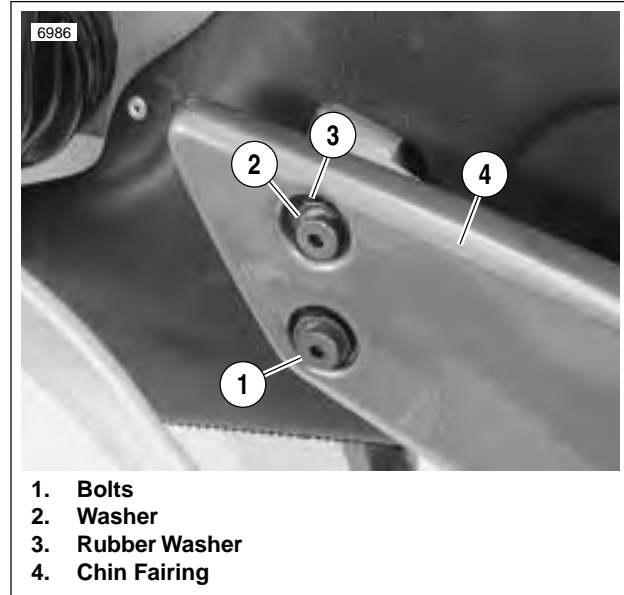

Figure 2-112. Chin Fairing, Right Side
1. See Figure 2-112. Remove two bolts (1), washers (2) and rubber washers (3) from right side of chin fairing (4).
3. See Figure 2-112. Apply LOCTITE THREADLOCKER 243 (blue) to bolts (1). Place metal washers (2) over bolts (1) and then install rubber washer (3). Install bolts (1) and tighten to 9-10 **ft-lbs** (12-14 Nm).